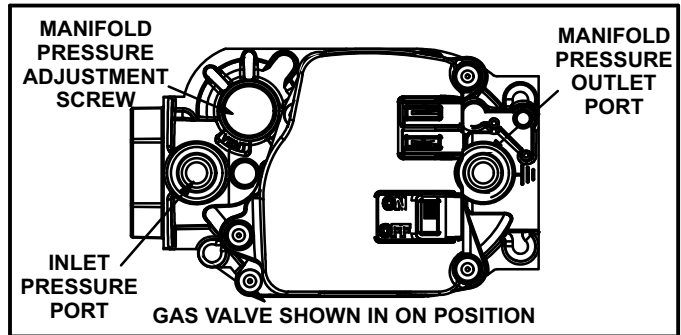

FIGURE 22
Gas Valve Operation (Figure 22)
- 6 - Move switch on gas valve to **OFF**. Do not force. See figure 22.
- 8 - Move switch on gas valve to **ON**. Do not force. See figure 22.